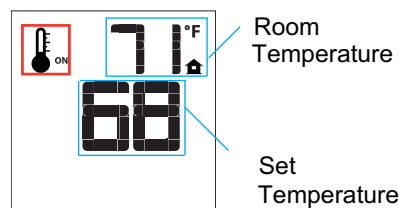

Figure 14 - Remote Control Displaying Room Temperature and Set Temperature
1. To activate this function, press the Thermostat key. The LCD display on the transmitter will change to show that the room thermostat is ON and the set temperature is now displayed (see Figure 14).
2. Adjust the set temperature by pressing the up or down-arrow keys until the desired set temperature is displayed on the LCD screen (see Figure 14).